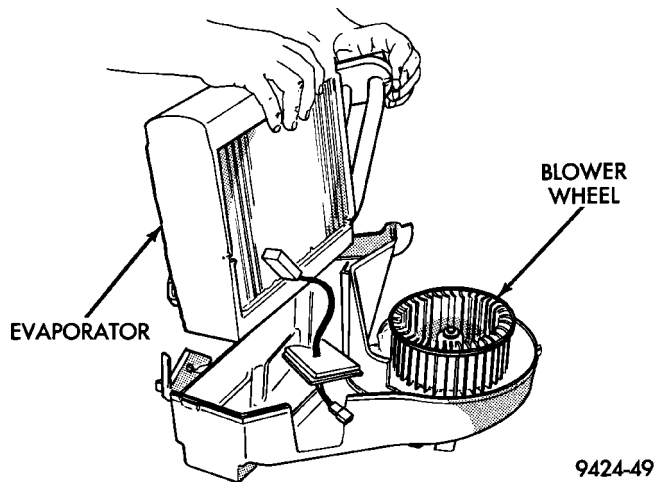

Fig. 32 Evaporator Removal
- (6) Lift the evaporator out of the module (Fig. 32).